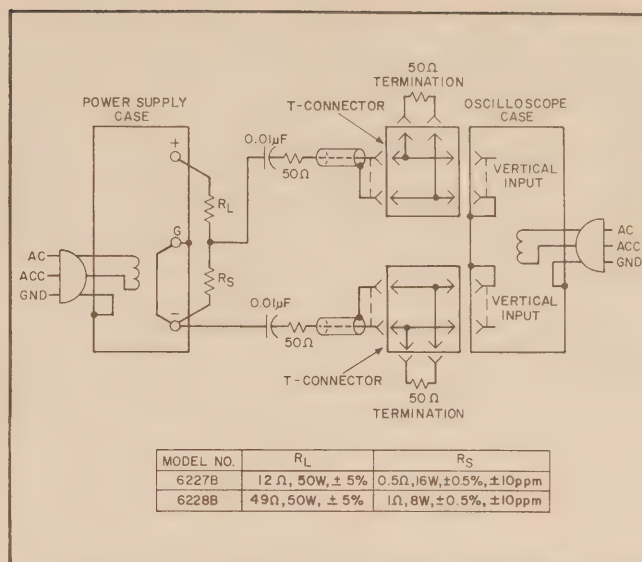

Figure 5-13. Constant Current Noise Spike Test Setup
- Connect test setup shown in Figure 5-13.